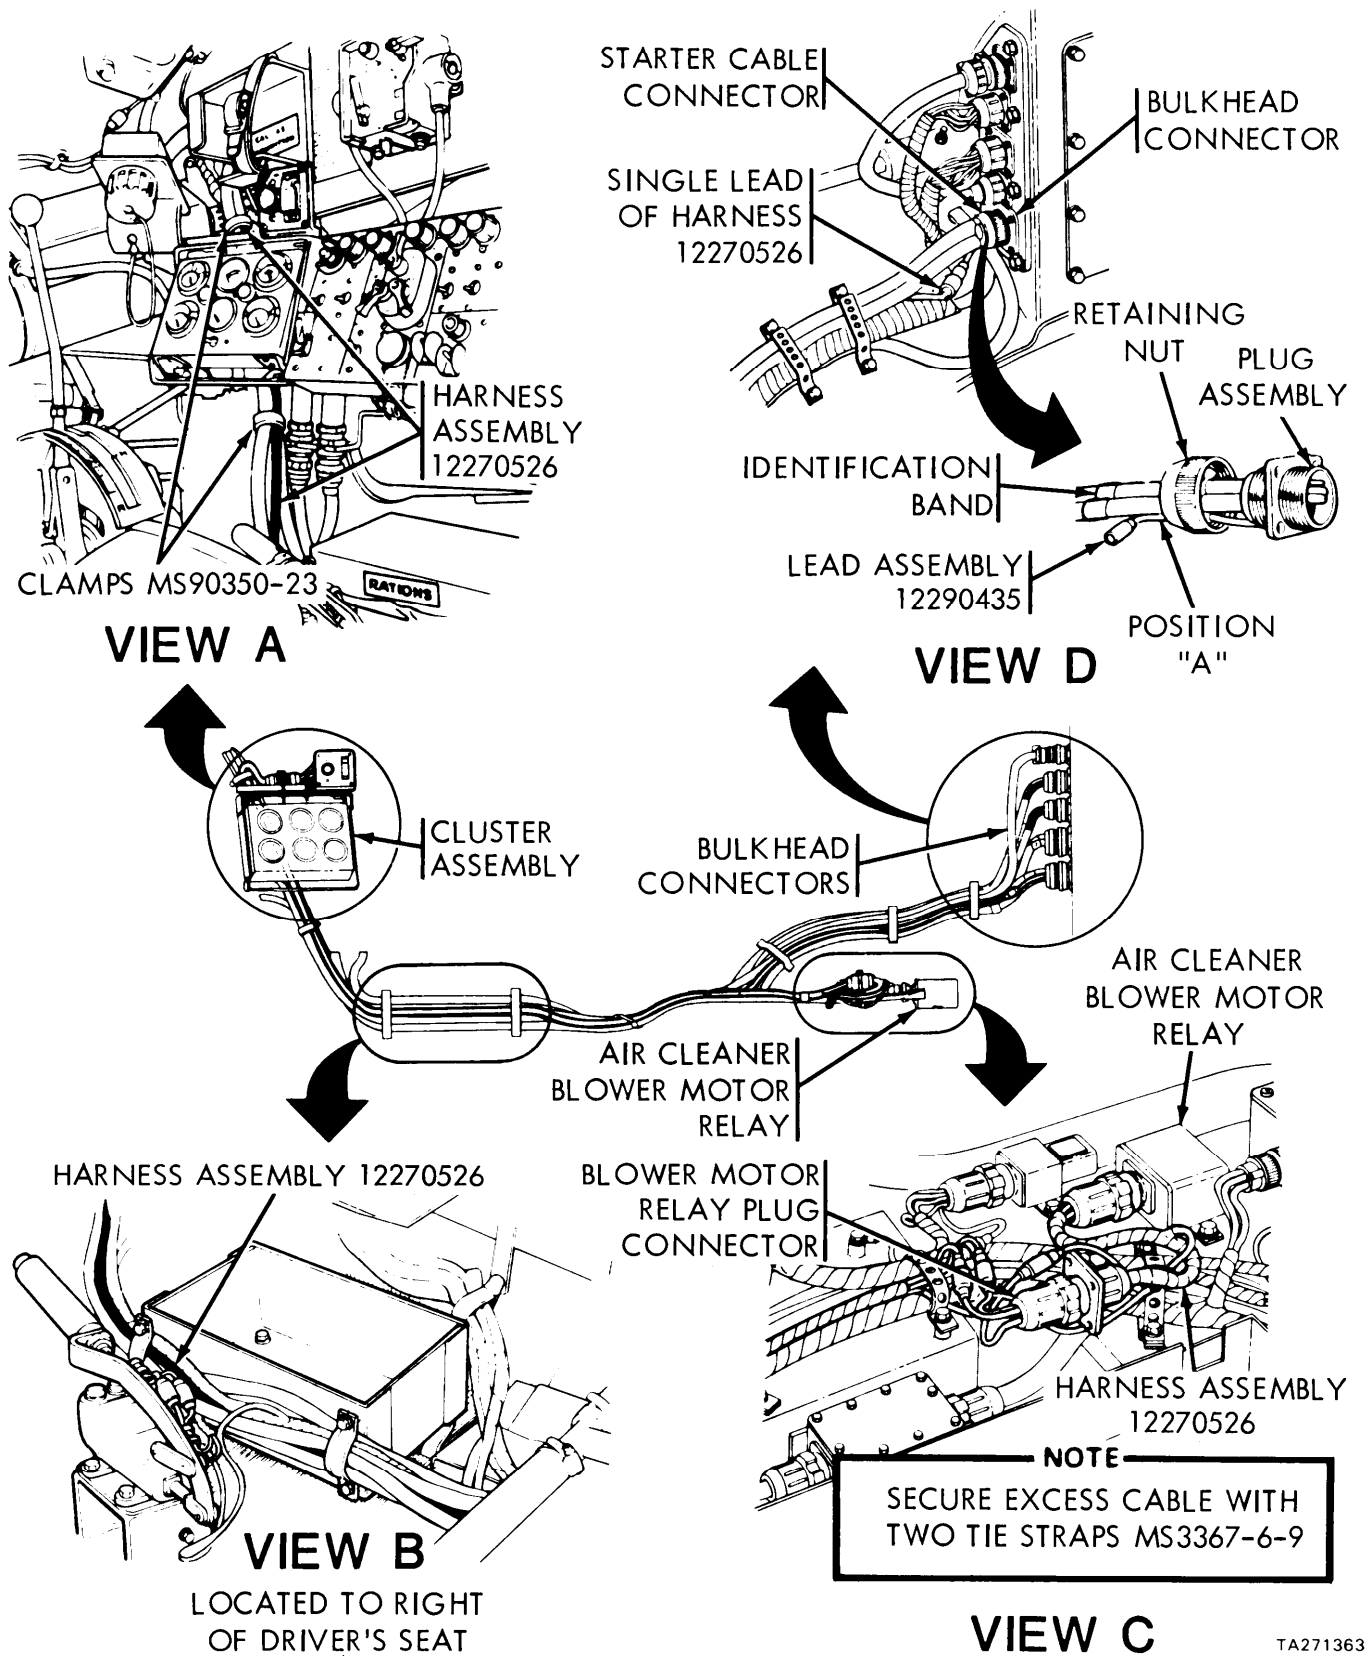

Figure 28. Installation of Hull Smoke Generator Harness
(2) Route switch plug connector end of harness assembly 12270526 along existing harness behind gage indicator panel and secure with existing clamps MS90350-23, as shown in figure 28, view A.
(12) Route engine smoke harness 12270526 (switch plug connector end) along existing harness behind gage indicator panel and secure with existing clamps MS90350-23 as shown in figure 28, view A.
(14) Route smoke harness 12270526 back along existing harnesses to the air cleaner blower motor relay (figure 28, view B and C) and route single lead Of smoke harness Positive lead up to bulkhead disconnects (figure 28, view D). Do not secure harness at this time.
(15) Disconnect blower motor relay plug connector and connect one end of smoke harness 12270526 to the relay and the other end to the connector as shown in figure 28, view C.
(16) Secure smoke harness along existing harness from the switch to the relay and secure with the existing retaining straps as shown in figure 28. Additional harness retaining strap 10905840 is supplied in kit if needed.
- (17) Secure harness receptacle connectors and excess cable at the relay with two tie straps MS3367-6-9 (figure 28, view C).
- (18) Disconnect the three harness securing straps back from bulkhead disconnects.
- (19) Disconnect starter cable connector at the bulkhead (figure 28, view D).
- (20) Back off retaining nut from plug assembly and remove existing rubber filler plug and contact from location "A" (figure 28, view D).
- (21) Install socket contact end of lead assembly 12290435 through retaining nut and into hold position "A" (figure 28, view D). To aid in installation, lube socket and grommet hole with silicone compound MIL-S-8660. Assemble retaining nut to plug assembly.
- (22) Remove and discard existing identification band (harness part. no. 11673827) from starter harness (figure 28, view D).
- (23) Stamp harness part number 12290437 into new identification band MS43436/1-3 and apply to starter harness (figure 28, view D).
- (24) Reconnect starter cable connector to bulkhead and connect single lead of harness 112270526 to lead assembly 12290435 (figure 28, view D). Use silicone compound if needed.
- (25) Secure single lead of smoke harness with the existing securing straps.
(17) Remove electrical disconnect plate and disconnect starter cable connector at the bulkhead (figure 28, view D).
(18) Back off retaining nut from plug assembly and remove existing filler rod and contact from location "A" (figure 28, view D).
(19) Install socket contact end of lead assembly 12290435 through retaining nut and into hold positon "A" (figure 28, view D). To aid in installation, lube socket and groin met hole with silicone compound MIL-S-8660. Assemble retaining nut to plug assembly.
(20) Remove and discard existing identification band from starter harness (figure 28, view D).
(22) Reconnect starter cable connector to bulkhead and connect single lead of harness 12270526 to lead assembly 12290435 (figure 28, view D). Use silicone Compound if needed.
(23) Secure single lead of smoke harness with the existing securing straps.